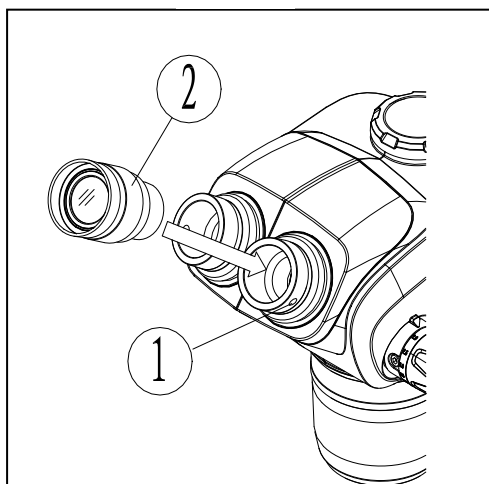

Fig 14
1. Unscrew body locking screw ①, insert into main body ②.
2. Fasten the Body Locking screw ①.
7.2.2 Eyepiece Installation (Fig 14)